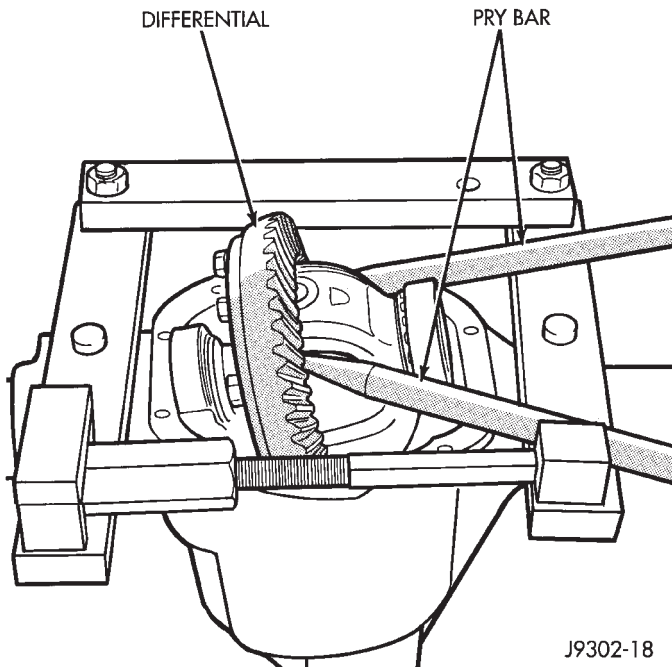

Fig. 31 Differential Removal
(8) Remove the dial indicator.
(9) Pry the differential case loose from the housing. To prevent damage, pivot on housing with the end of the pry bar against spreader (Fig. 31).